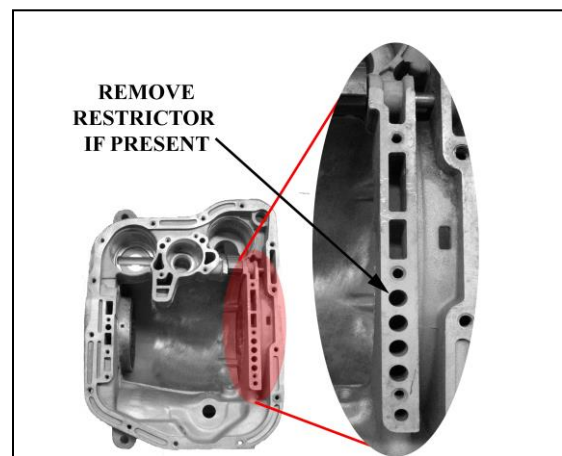

Figure 1
3. Check for restrictor plug in front clutch apply hole of case. (see Figure 1) Remove restrictor if one is present